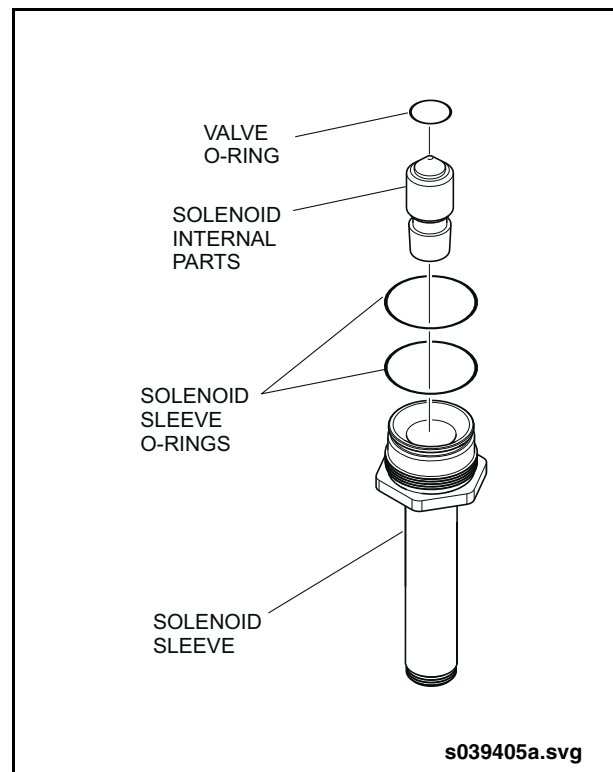

Fig. 1: Take out the solenoid internal parts
- d. Take out the solenoid internal parts. See "Fig. 1: Take out the solenoid internal parts" on page 2.